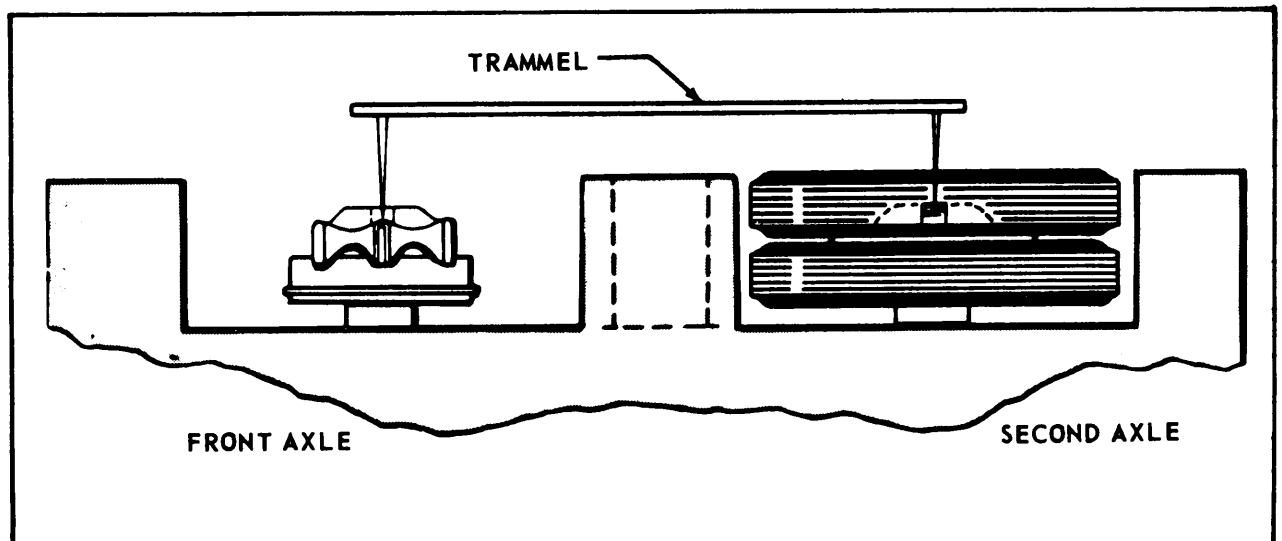

FIGURE 10-5. MEASURING AXLE CENTERS.
b. Remove hub caps and, using trammel equipped with extended points, check center distances of the first and second axle on both sides of the trailer (see figure 10-5).